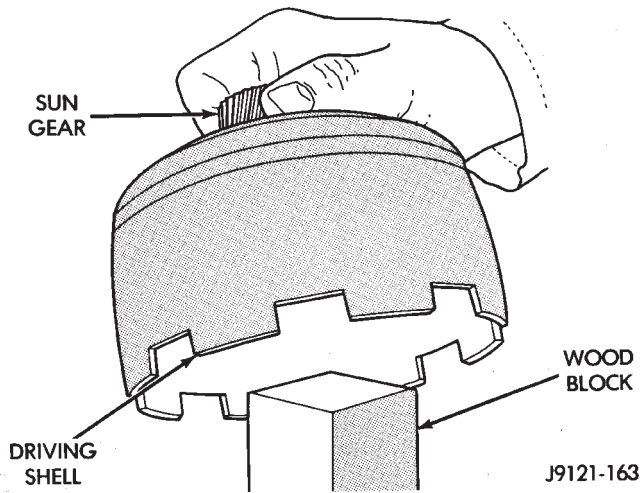

Fig. 91 Supporting Sun Gear On Wood Block
(10) Position wood block on bench and support sun gear on block (Fig. 91). This makes it easier to align and install sun gear lock ring. Keep wood block handy as it will also be used for geartrain end play check.